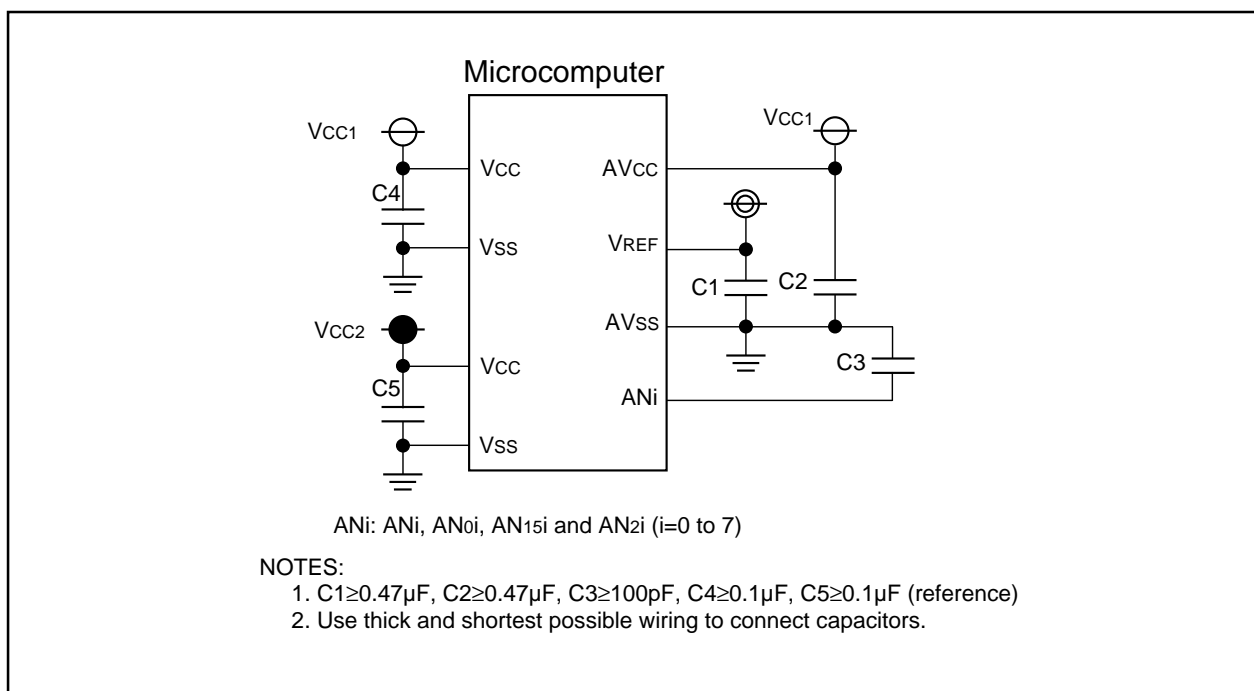

Figure 24.4 Use of Capacitors to Reduce Noise
- Insert capacitors between the AVCC pin, VREF pin, analog input pin ANi (i=0 to 7) and AVSS pin to prevent latch-ups and malfunctions due to noise, and to minimize conversion errors. The same applies to the VCC and VSS pins. Figure 24.4 shows the use of capacitors to reduce noise.